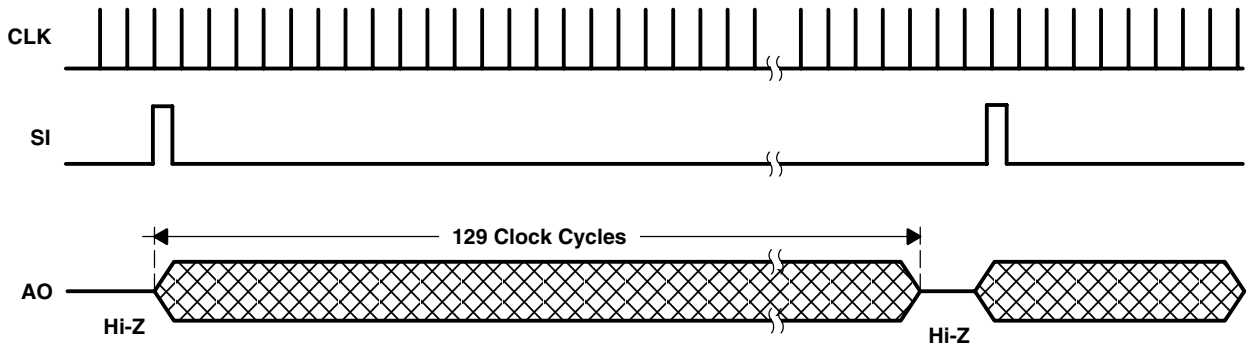
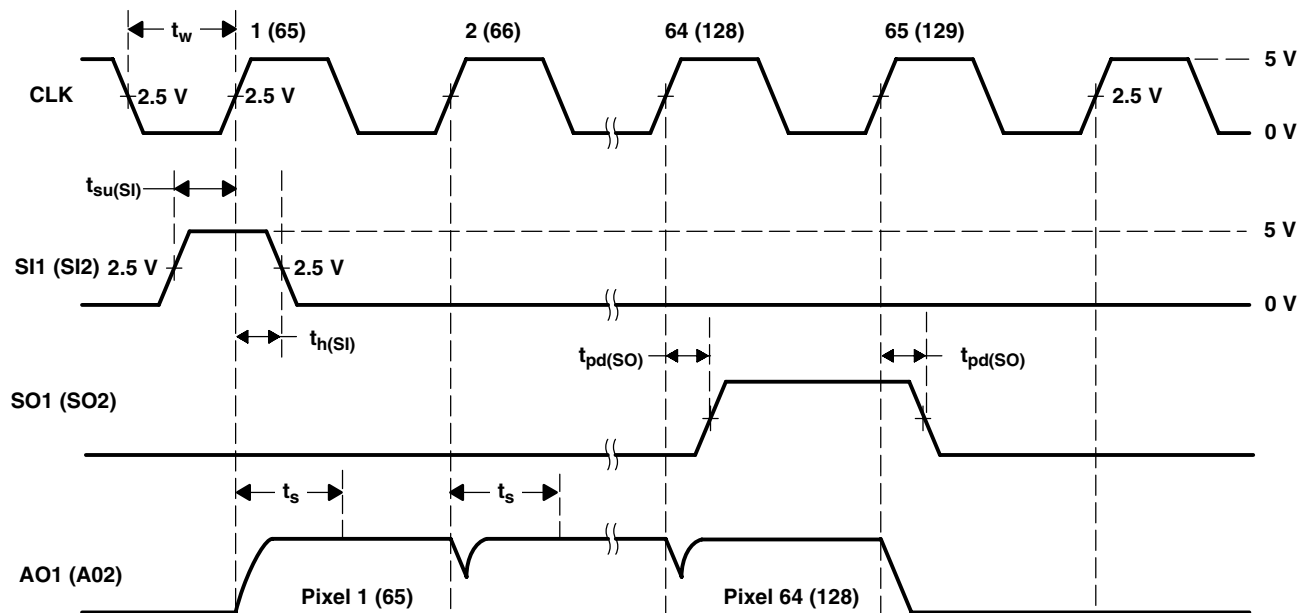

Figure 1. Timing Waveforms
Figure 2. Operational Waveforms (each section)
The output and reset of the integrators is controlled by a 128-bit shift register and reset logic. An output cycle is initiated by clocking in a logic 1 on SI for one positive going clock edge (see Figures 1 and 2)†. As the SI pulse is clocked through the 128-bit shift register, the charge on the sampling capacitor of each pixel is sequentially connected to a charge-coupled output amplifier that generates a voltage output, AO. When the bit position goes low, the pixel integrator is reset. On the 129th clock rising edge, the SI pulse is clocked out of the shift register and the output assumes a high-impedance state. Note that this 129th clock pulse is required to terminate the output of the 128th pixel and return the internal logic to a known state. A subsequent SI pulse can be presented as early as the 130th clock pulse, thereby initiating another pixel output cycle.
## Recommended Operating Conditions (see Figure 1 and Figure 2)
### Timing Requirements (see Figure 1 and Figure 2)
**Dynamic Characteristics over recommended ranges of supply voltage and operating free-air temperature (see Figure 2)**